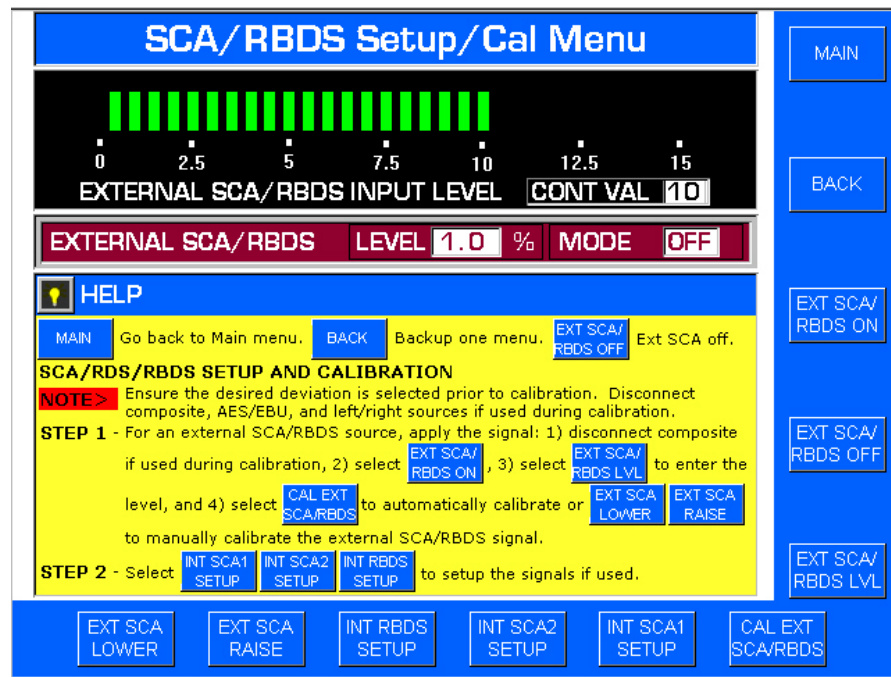

Figure 3-35. EXTERNAL SCA/RBDS SETUP/CAL MENU
An external SCA or RBDS signal can be used with the FXi if desired. An external SCA/ RBDS signal is setup and calibrated using the CAL SCA/RBDS button on the Audio Input menu (refer to Figure 3-35). The setup menu allows the external input to be enabled/ disabled and the injection level to be assigned. The calibration procedure compensates for level variations in the signal. The default parameters are: 1) operating mode - off and 2) level - 10%. To calibrate the external SCA/RBDS source, proceed as follows:
2. Ensure the exciter is off-the-air and, from the Audio Input Menu, depress SCA/ RBDS SETUP. The SCA/RBDS Setup/Cal Menu will appear (refer to Figure 3-35).